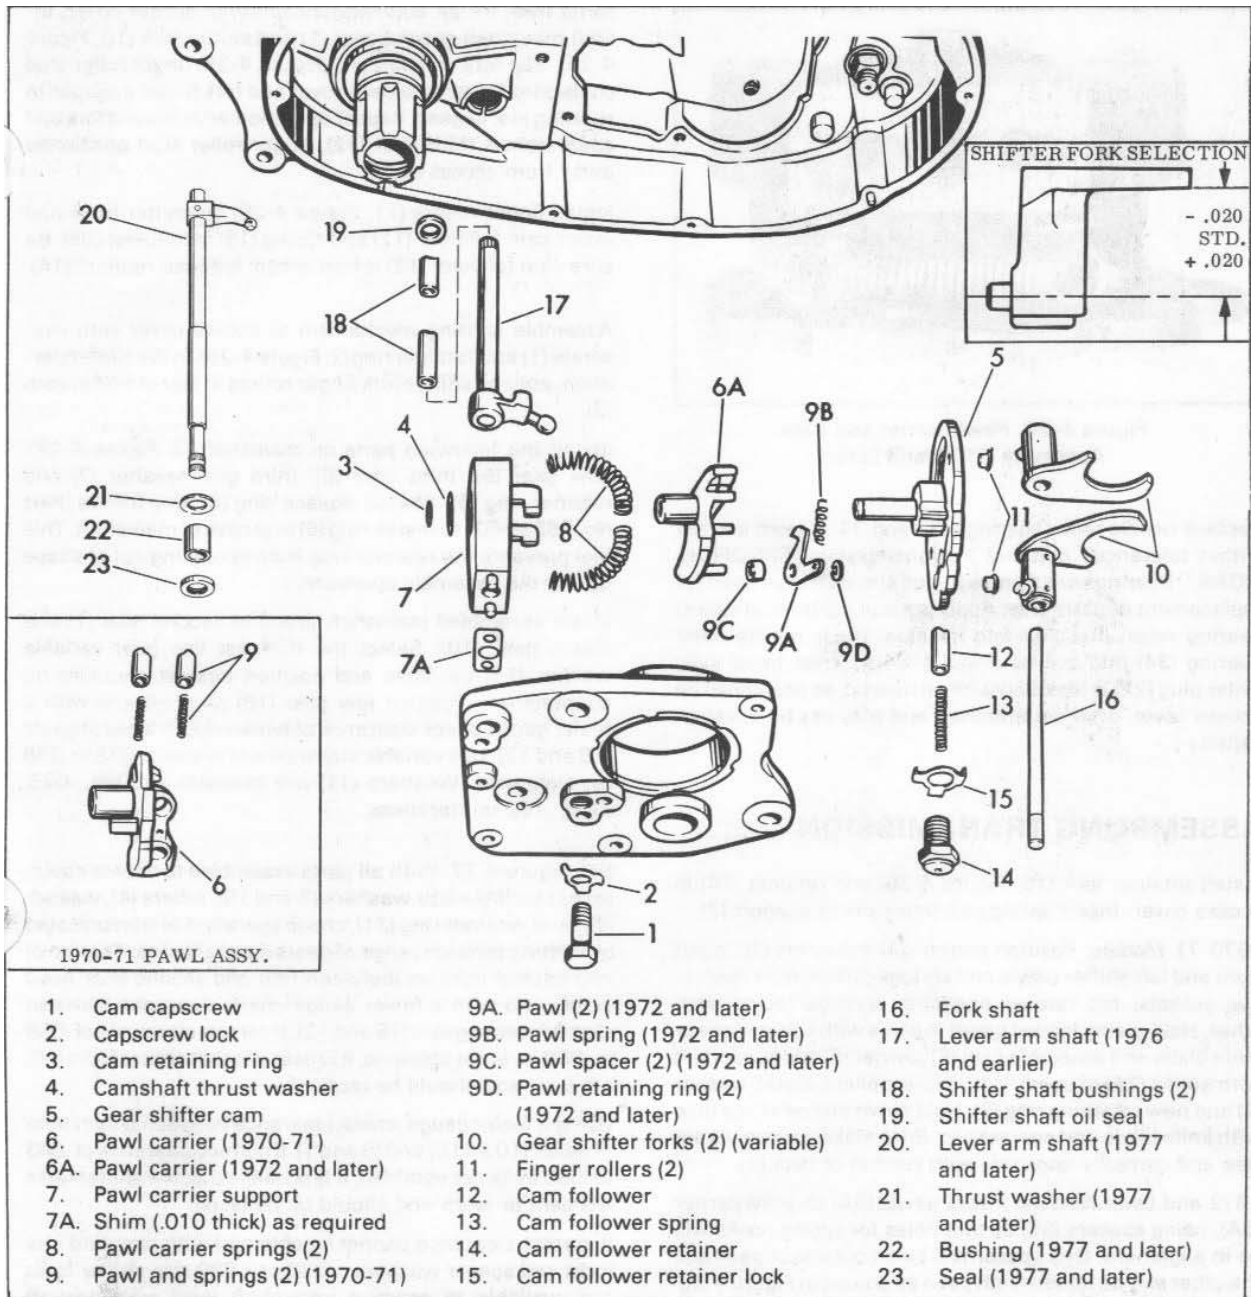

Figure 4-25. Shifting Mechanism - Exploded View
SHIFTER MECHANISM (Figure 4-25)
To free shifter mechanism from access cover, remove mainshaft second gear (1, Figure 4-27), capscrew (1, Figure 4-25) and lock (2). With a Tru-arc Pliers remove retaining ring (3) and washer (4). Free cam (5), pawl carrier (6 or 6A), pawl carrier support (7) and pawl carrier support shims (7A) (if used). Remove pawl carrier springs (8) from pawl carrier support. On 1970-71 models, remove shifter pawls and springs (9). To disassemble 1972 and later pawl assembly remove retaining rings (9D) to free pawls, spacers and springs (9A, 9B and 9C) from pawl carrier (6A). To free shifter forks (10) and finger rollers (11), remove fork shaft (16) from access cover. Mark fork so they can be reassembled in the same position.
Install retainer lock (15, Figure 4-25) and retainer (14) in access cover. Insert springs (8) into slots of support (7).
turns free. Install countershaft group in access cover. Install mainshaft second gear (1) and shifter fork (10, Figure 4-25). Slip fork on shaft (16, Figure 4-25) finger roller stud positioned towards access cover and fork finger engaged in running slot of gear. Repeat operation with second fork and countershaft third gear (12), finger roller stud positioned away from access cover.
Install finger rollers (11, Figure 4-25) on shifter forks and insert cam follower (12) and spring (13) in follower (14). Be sure cam follower (12) is free in cam follower retainer (14).
Assemble shifting mechanism to access cover with cap-screw (1) and retainer ring (2, Figure 4-25). In the same operation, engage shifter fork finger rollers in slot of shifter cam (5).
Shims (7A, Figure 4-25) should be employed to space both mainshaft 2nd and countershaft 3rd gears away from access cover if necessary.
With the transmission completely assembled (not in crankcase, however), hold on to shifter cam (5), Figure 4-25 so that cam follower (12) does not complete the shift. Then, shift the transmission into all four gears (upshift and downshift). In each case, check to see that the sliding gears go into their respective mating gears at least 50%, with 25% being the minimum allowable into low gear. If the sliding
With mainshaft and countershaft end play established, center the gear shifter lever arm shaft (17, Figure 4-25), so